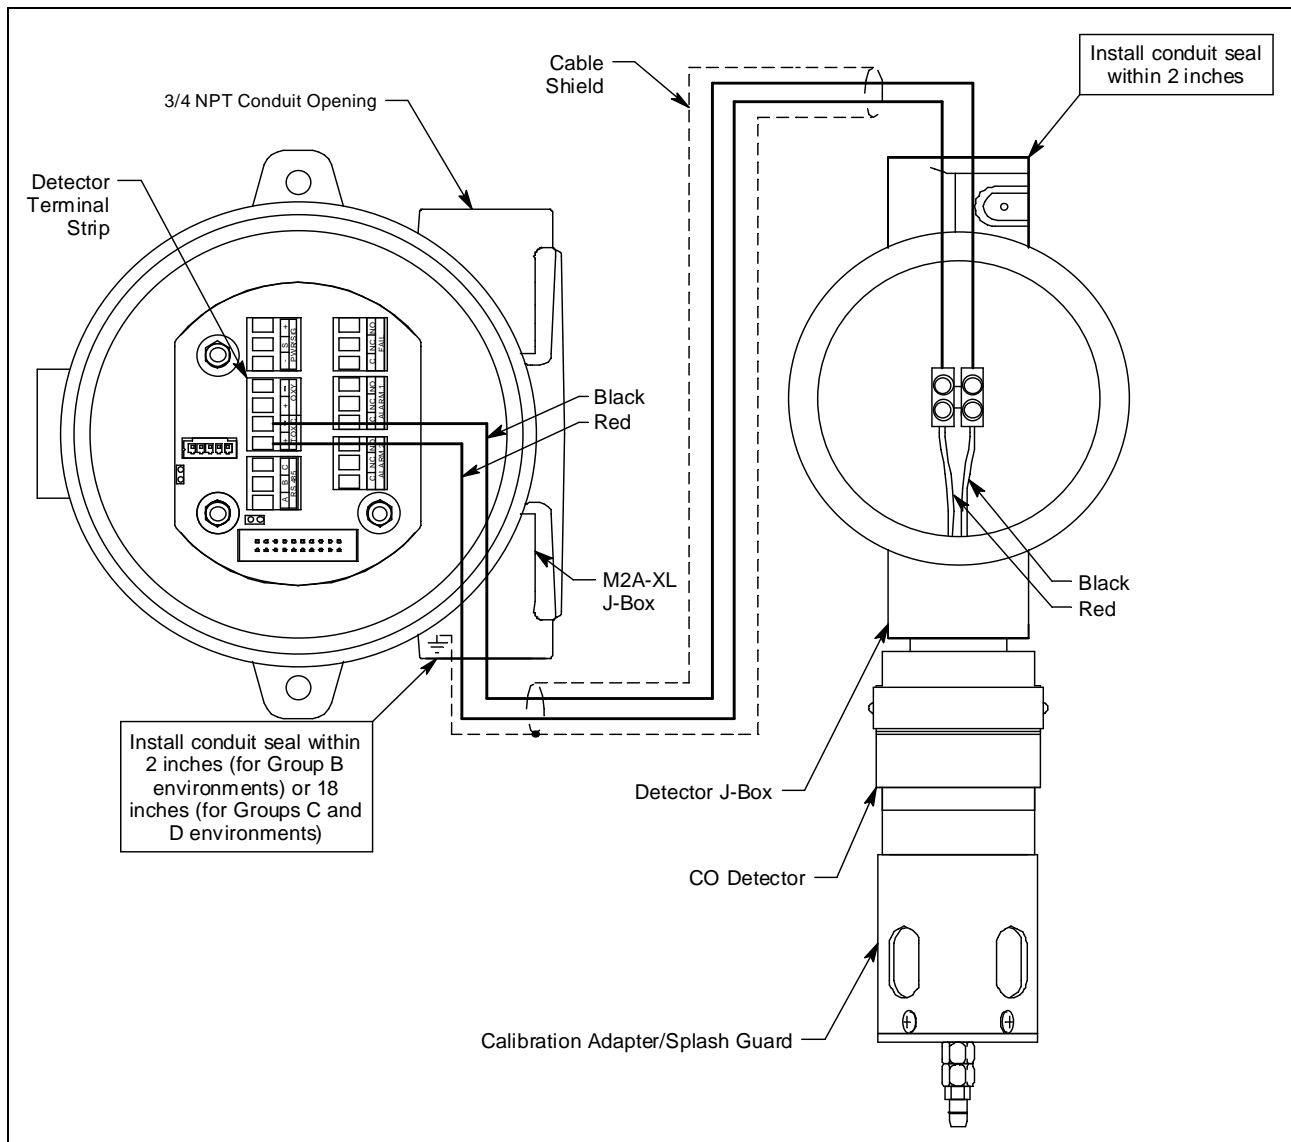

Figure 8: Wiring the Detector to the M2A
7. To maintain the explosion proof classification of the junction boxes, conduit seals must be installed as shown in Figure 8. Adhere to your local electrical code when installing the conduit seal.
14. Pull out the detector terminal strip and connect the two wires to the terminal strip as follows (see Figure 8).
1. To maintain the explosion proof classification of the M2A junction box, a conduit seal must be installed within 2 inches (for Group B environments) or 18 inches (for Groups C and D environments) of the M2A's left conduit hub, in addition to the conduit seals shown in Figure 8. Adhere to your local electrical code when installing the conduit seal.